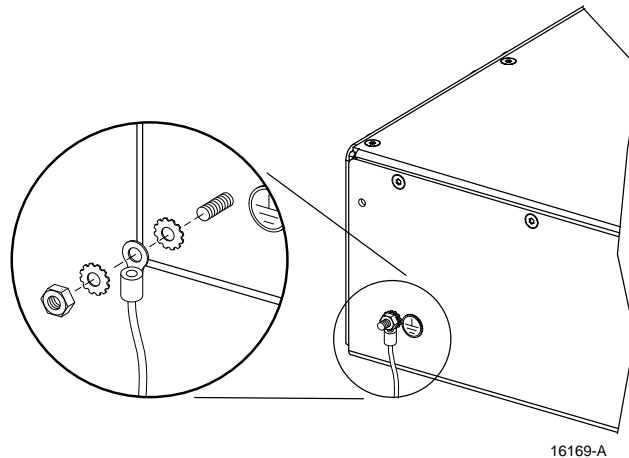

Figure 18. Chassis Ground Stud
3. Locate the chassis ground stud at the rear of the DHU as shown in Figure 18.
4. Attach the ring end of the wire to the chassis ground stud (see Figure 18).